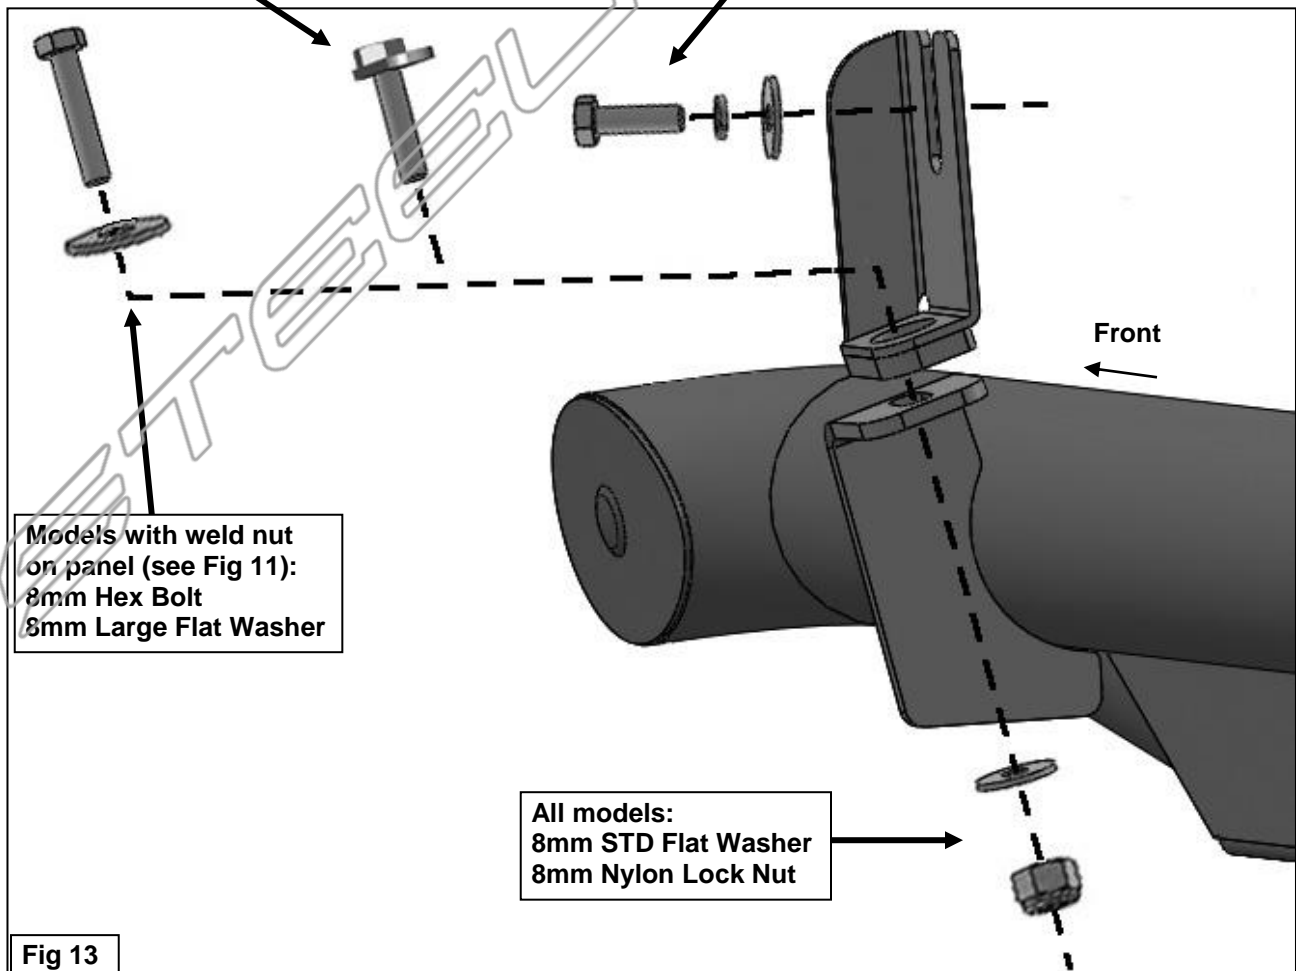

Fig 13
- a. **Models with a weld-nut:** Slide the Bracket over the weld-nut, **(Figure 11)**. Insert (1) 8mm x 40mm Hex Bolt with (1) 8mm x 28mm Large Flat Washer down through the threaded hole in the weld nut and Upper Bracket, **(Figure 13)**. Tighten all hardware attaching the Upper Bracket only at this time.
10. Line up the front mounting tab on the HD Side Step with the Upper Bracket. Attach the mounting tab to the Hex Bolt or Bolt Plate in the bottom of the body panel with (1) 8mm x 24mm Flat Washer and (1) 8mm Nylon Lock Nut, **(Figure 13)**. Do not tighten hardware at this time.